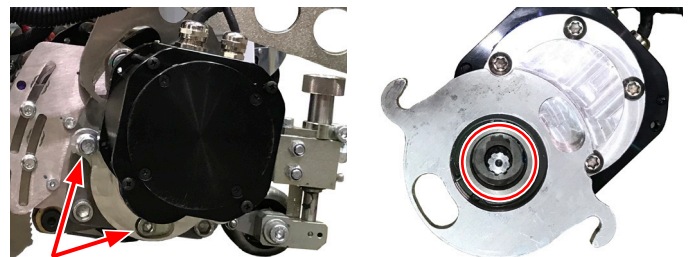

Figure 27
- The motor assembly also has three locations. See Figure 27.